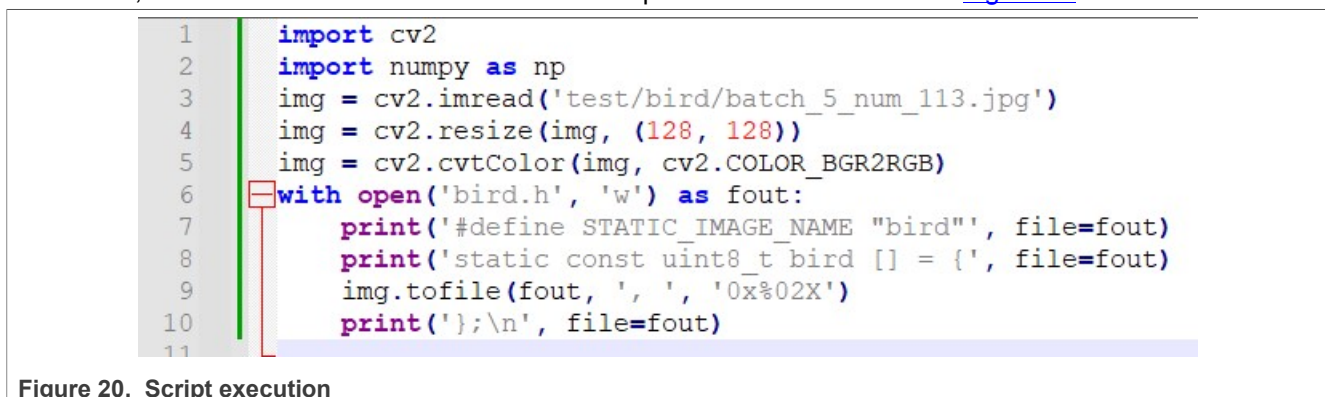

Figure 20. Script execution
5. Prepare some test data, use the following Python script program to load the selected JPG file (included in the CIFAR10 test dataset), uncompress it, and export it to a C array, together with the array definition. Save it to bird.h within the same folder of the following Python script file. Ensure that the path to the image is correct, relative to the location from where the script is executed as shown in Figure 20.